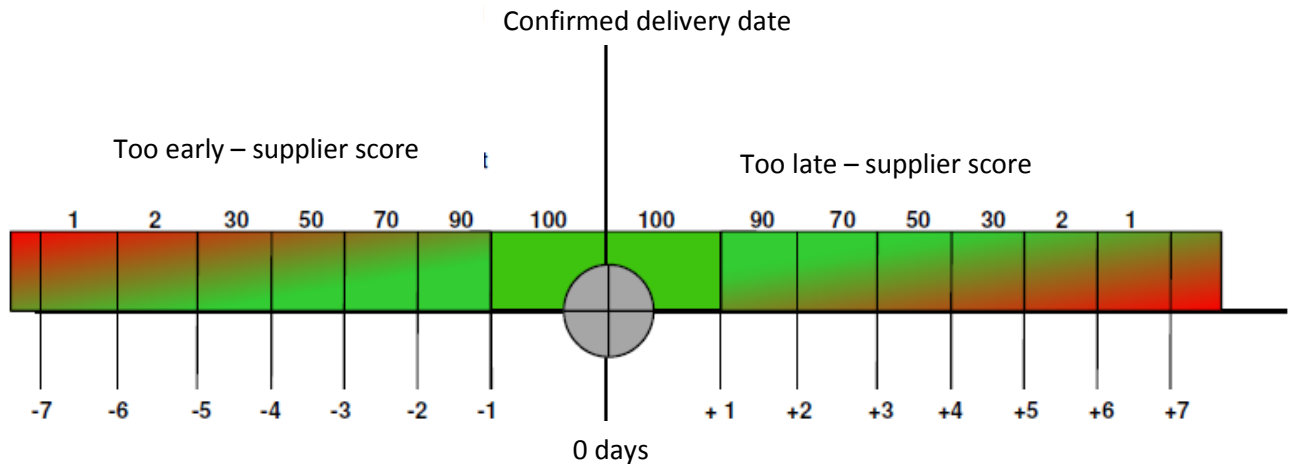

Fig. 4-3: Definition of delivery reliability at KAESER
- Fig. 4-3: Definition of delivery reliability at KAESER**